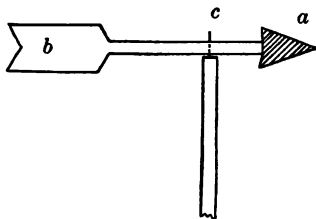

FIG. 17
91. Make a weathervane like that in Fig. 17. Weight the head end by wrapping it with lead foil till the whole is balanced and turns freely upon its pivot at  $c$ . Blow upon this (better, place it in the wind, whose effect you can hardly duplicate). Which